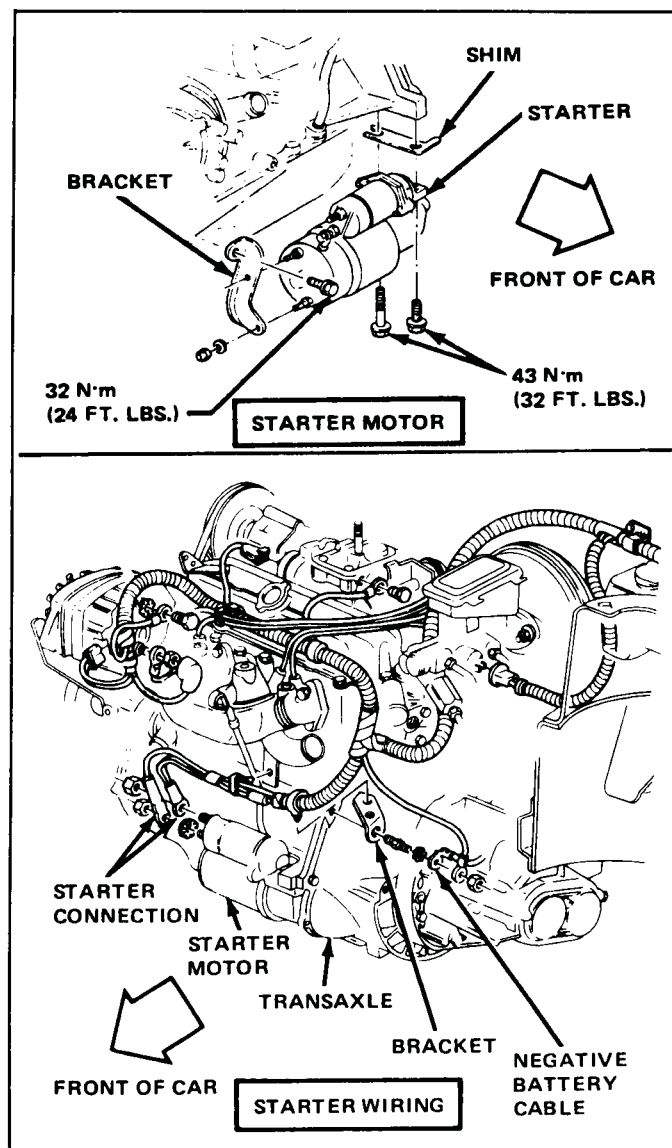

Figure 7A-25 Starter Removal
3. Remove bolt securing T.V. cable to transaxle. Pull up on cable cover at transaxle until cable is seen. Disconnect cable from transaxle rod, Figure 7A-17.